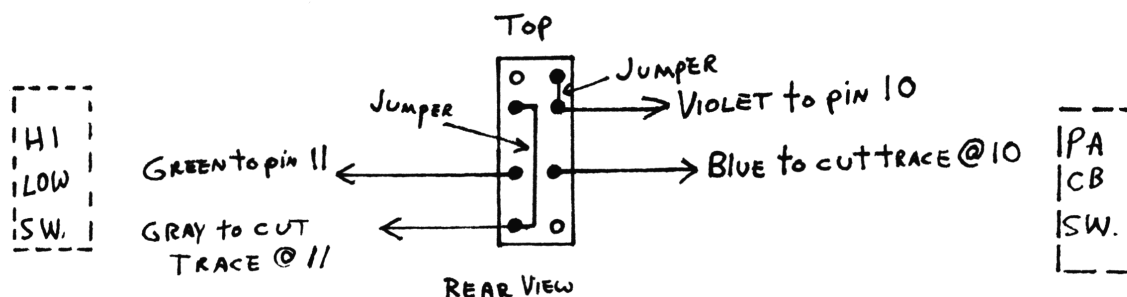

FIG. 1
11. Install 2 wire jumpers as shown in Fig. 1.
13. Hook up VIOLET and BLUE wires to the one half of the switch and to pin 10 as shown in Fig. 1 & 2.
15. Hook up GREEN and GRAY wires to the other half of the switch and to pin 11 as shown in Fig. 1 & 2.